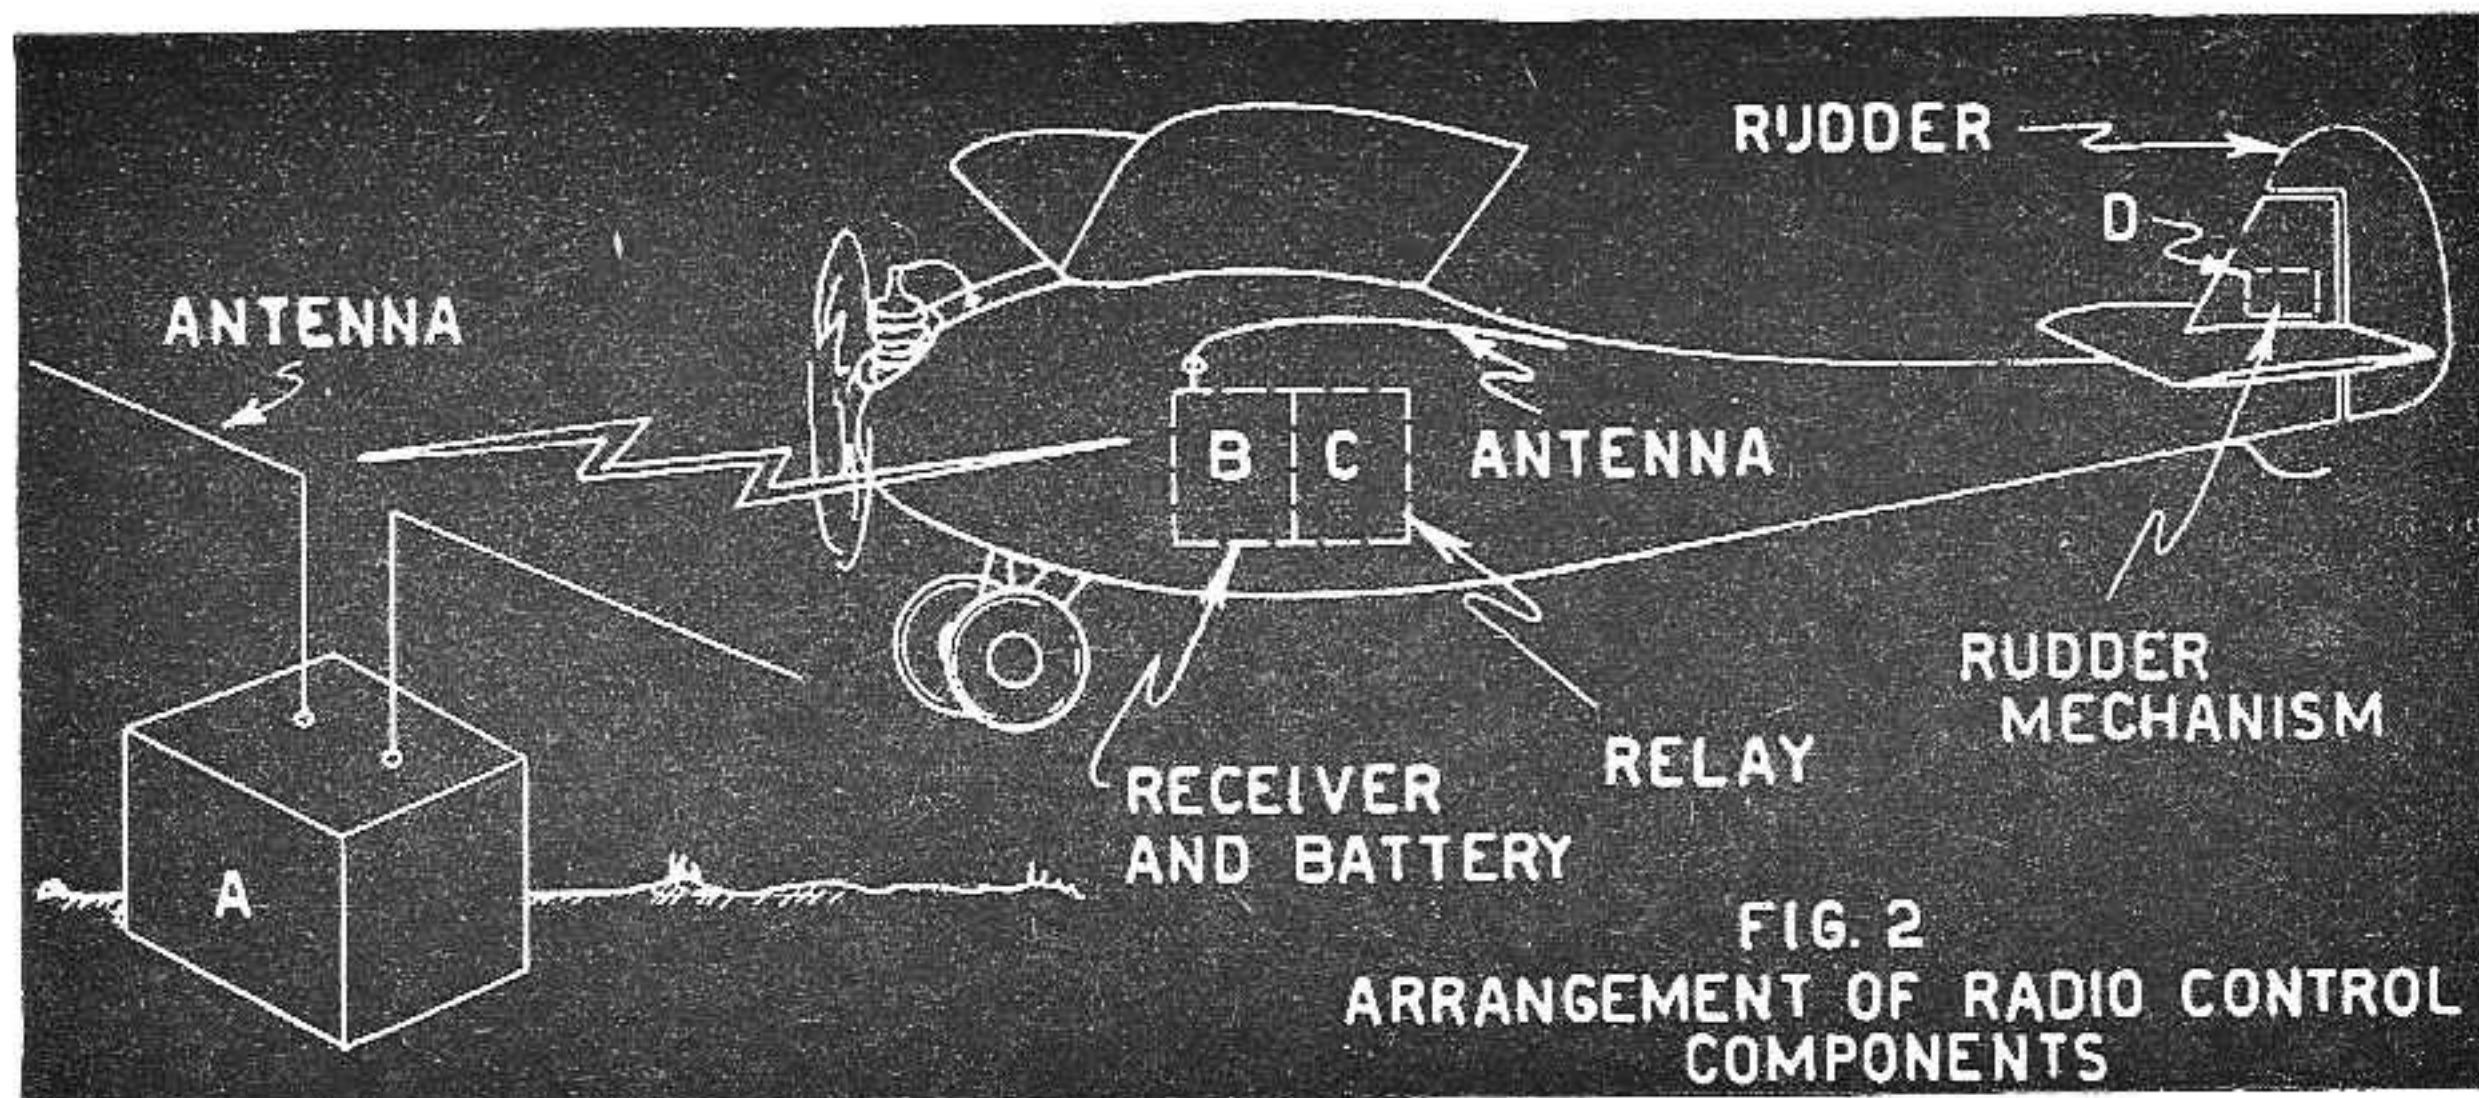
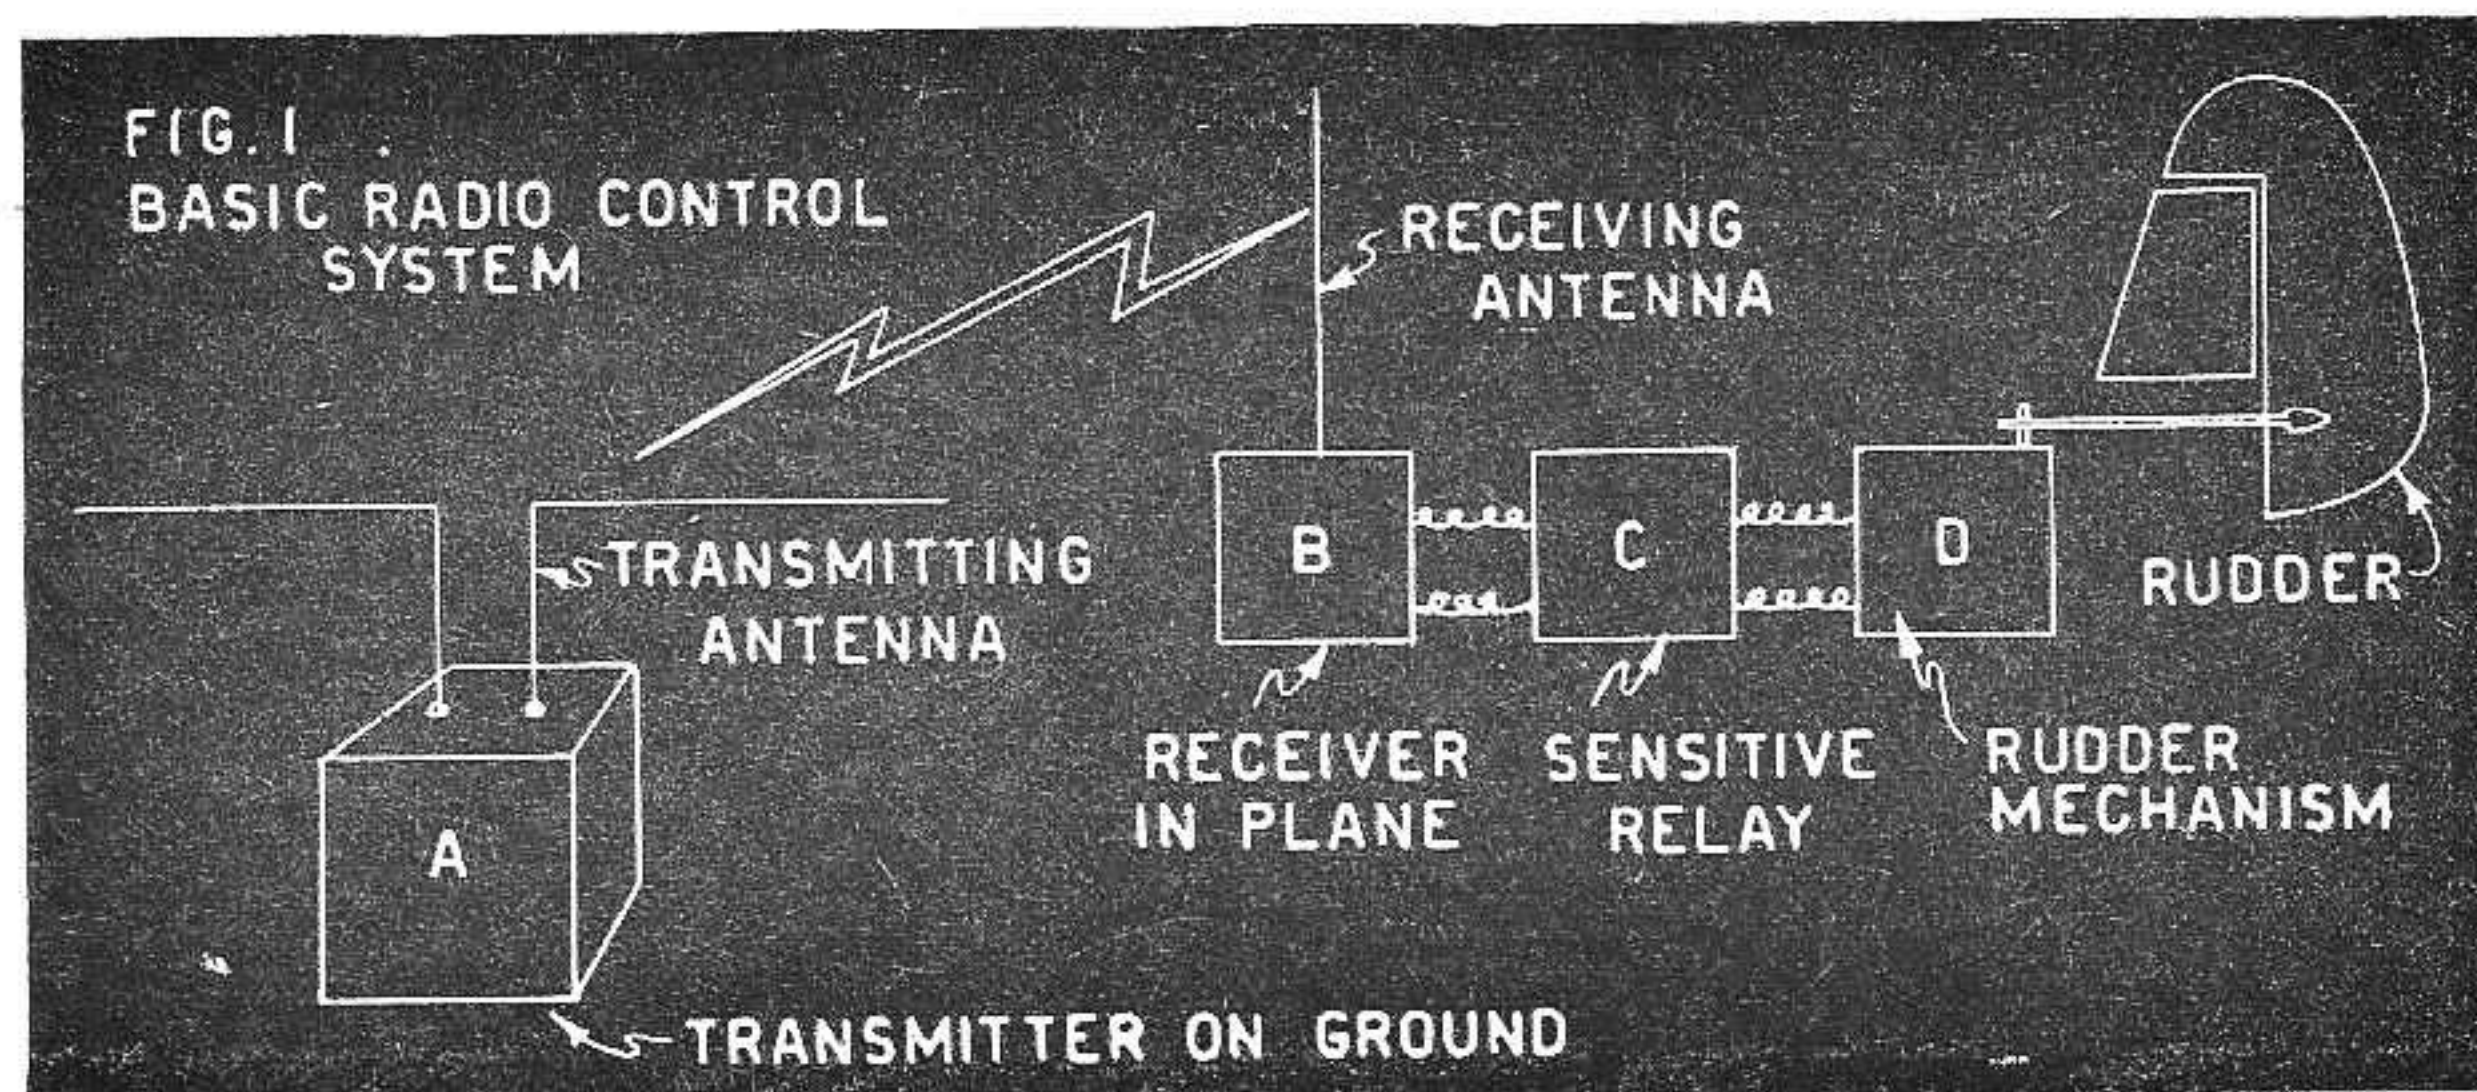

FIG. 2
FIG. 1
The operation of a radio control system is simple. Fig. 1 shows the basic radio control system. A radio transmitter (A) on the ground sends a radio signal to the receiver (B) in the plane. The receiver causes the sensitive relay (C) (effectively a switch) to close and operate the control (D) which moves the rudder making the model turn. Fig. 2 shows a typical arrangement of these components in the controlled model. The complete radio control equipment usually weighs from one to two pounds, resulting in a ship weighing from five to fifteen pounds.